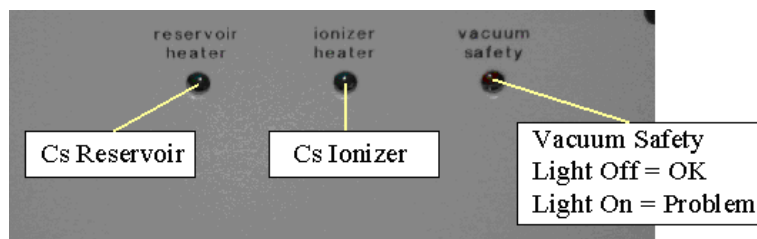

Figure 297: Front face of the Cesium chassis
- The Ionizer and Reservoir lights on the electronic cabinet should then be ON (green light, Figure 297).